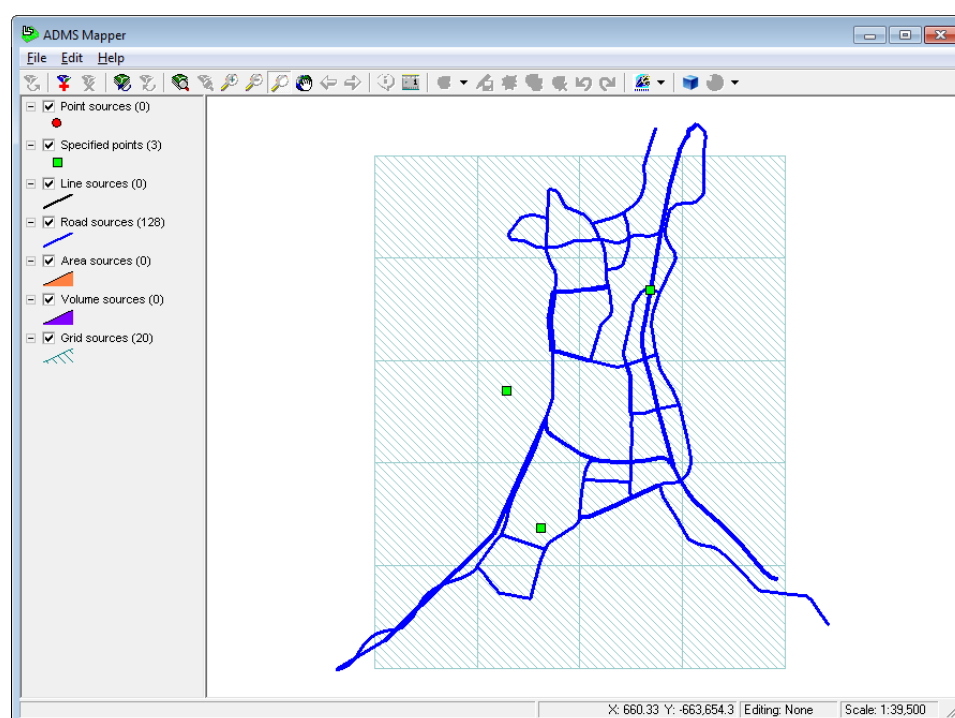

Figure 7.2 The explicitly modelled sources and receptor locations in Example 1.
- Step 4** Repeat Steps 1-3 with the file *Explicit.upl* from the `<install_path>\Examples` directory. Viewing this *.upl* file in the ADMS Mapper will display the explicit ADMS-Urban sources that are present within the ADMS-Urban modelling area, and the receptor points at which concentration output will be obtained, as shown in **Figure 7.2**.